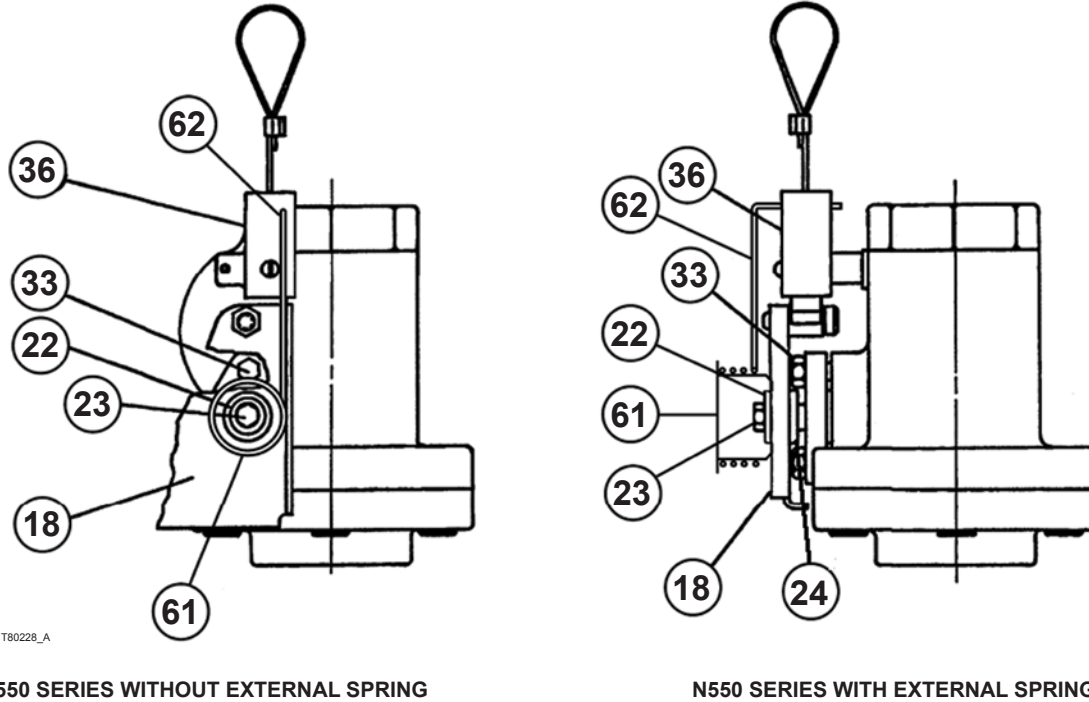

Figure 2. N550 Series Valve Prior to Mounting Type P539
Refer to Figure 2, **for units with an external spring:** Remove the bolt (key 23), spring mandrel (key 61), the external spring (key 62), fuse link (key 22), operating lever (key 18), latch block (key 36), and the rear gland bolt (key 33). **KEEP THE BOLTS (keys 23 and 33) AND THE RETAINER (key 24).**
Refer to Figure 2, **for units without an external spring:** Remove the latch block (key 36), fuse link (key 22), bolt (key 23), operating lever (key 18), and the rear gland bolt (key 33). **KEEP THE BOLTS (keys 23 and 33) AND THE RETAINER (key 24).**